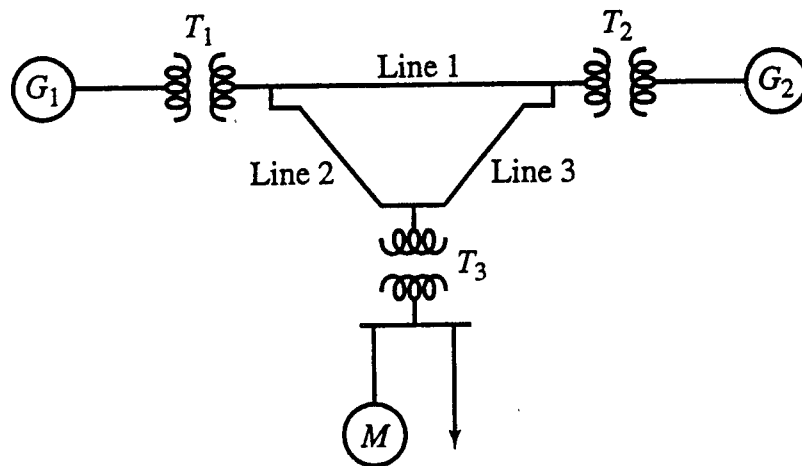

Figure 2.1
2. Draw a per-unit impedance diagram for the system whose one-line diagram is shown in Figure 2.1.